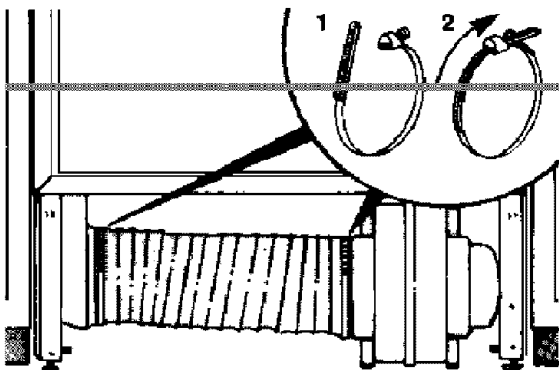

Figure 19
- Use one of the duct clamps provided. Using a screw driver, tighten duct clamp to secure the flex duct to the inlet of the blower. (See figure 19).